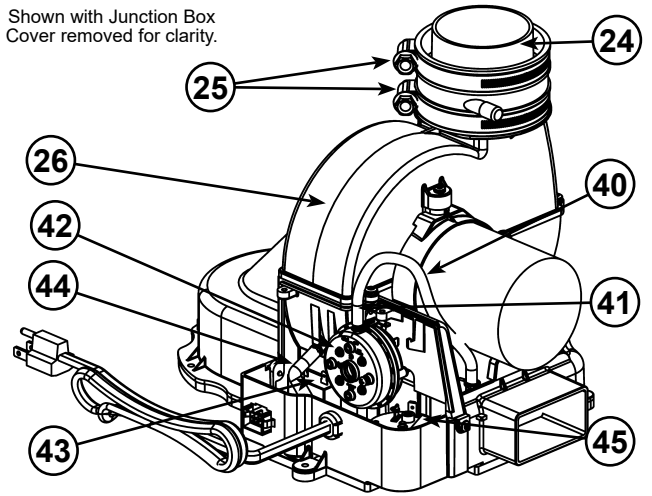

Figure 57.
- 24 ***Rubber Coupling (see Figure 4) (see also Figure 57)
- 25 Gear Clamp (see Figure 4) (see also Figure 57)
- 26 **Blower with Power Cord (see Figure 4) (see also Figure 57)
- 40 Air Tubing (Intake) (see Figure 4) (see also Figure 57)
- 41 Blower High Limit Switch (see Figure 4) (see also Figure 57)
- 42 Intake Air Pressure Switch (NC) (inside box) (see Figure 4) (see also Figure 57)
- 43 Capacitor (see Figure 4) (see also Figure 57)
- 44 Air Tubing (Exhaust) (see Figure 4) (see also Figure 57)
- 45 Exhaust Air Pressure Switch (NO) (inside box) (see Figure 4) (see also Figure 57)